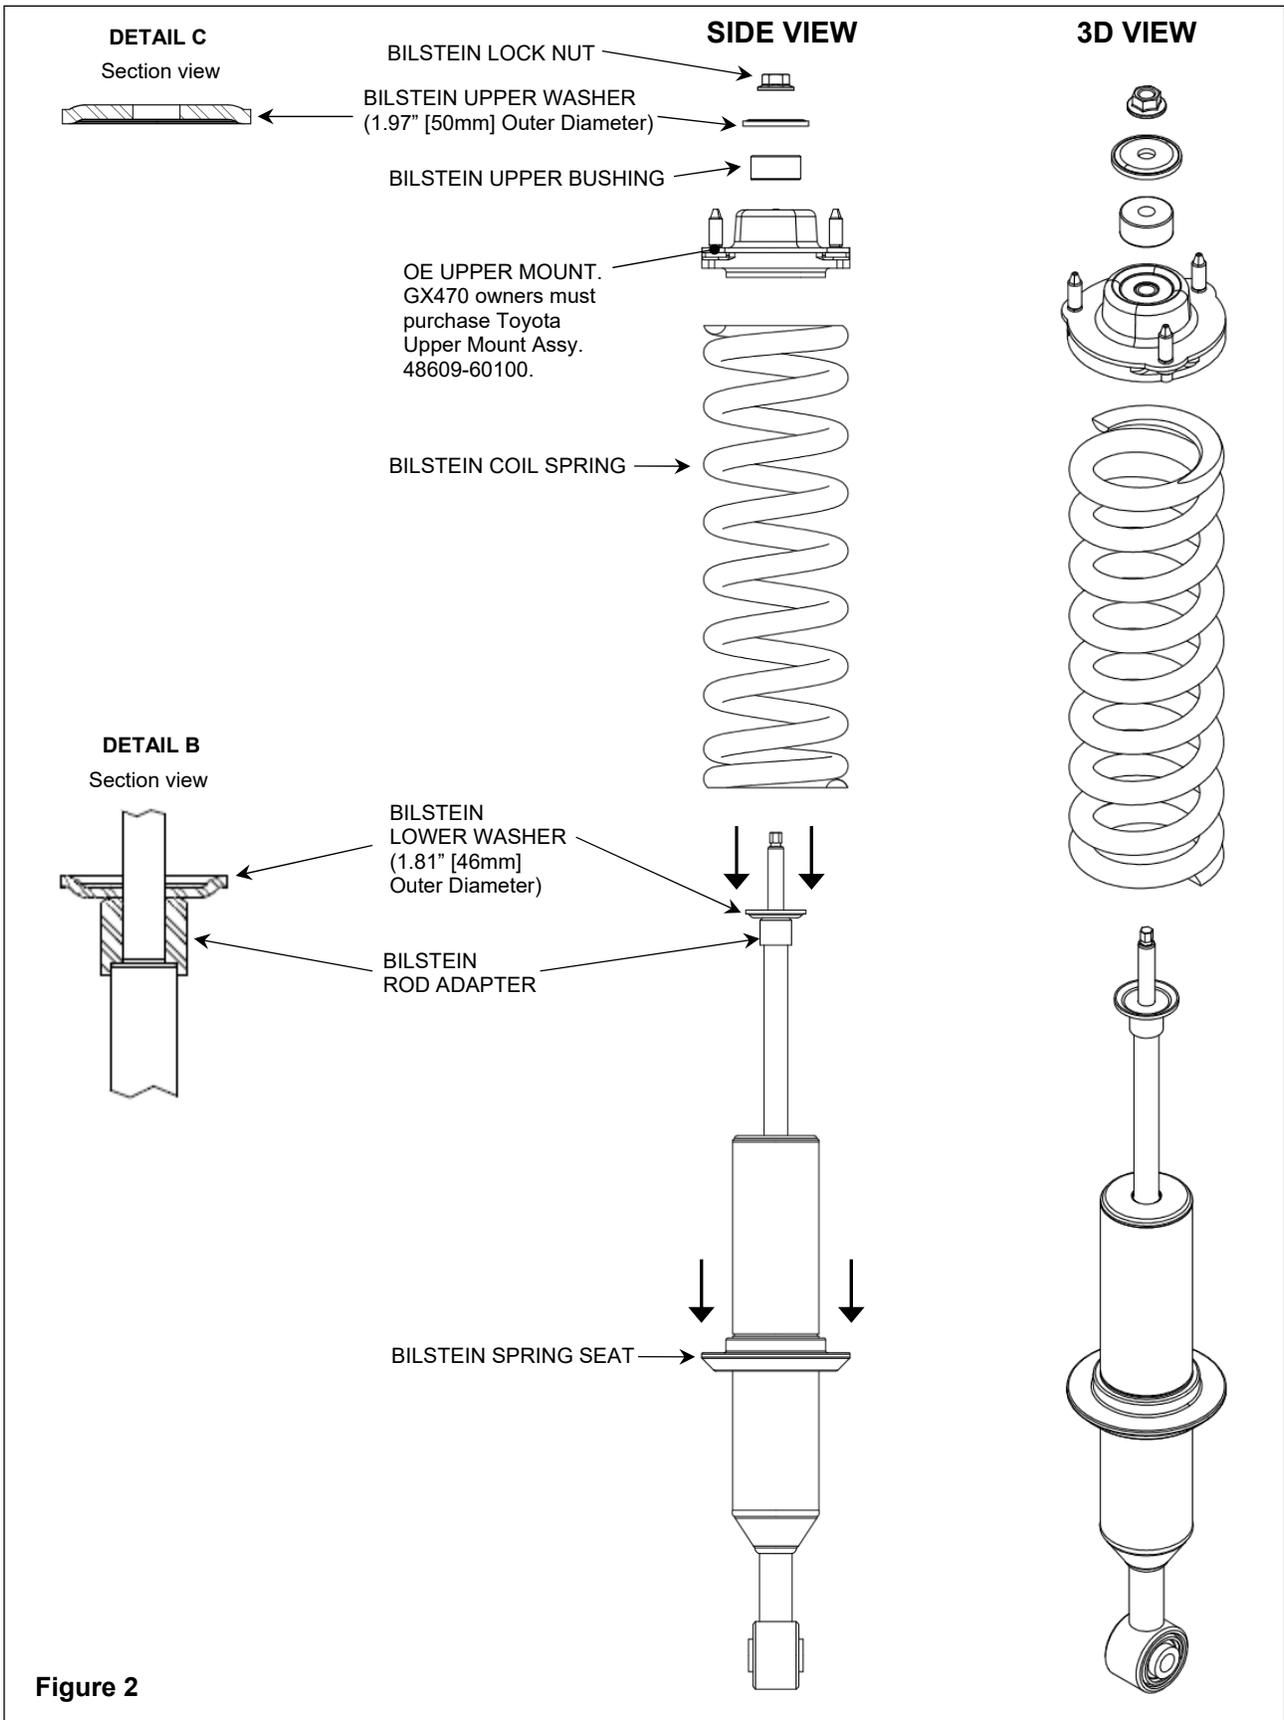

Figure 2
[Refer to Figure 2 on page 7 for steps F-L]
- G. Install the supplied rod adapter (counter bore side down) onto the stem of the rod as shown. Ensure that the rod adapter is oriented correctly (see Figure 2 Detail B).
- H. Install the supplied lower washer (concave side up) onto the stem of the rod as shown. Ensure that the lower washer is oriented correctly (see Figure 2 Detail B).
- I. Using an appropriate spring compressor, compress the supplied coil spring and assemble it with the new Bilstein shock. Refer to Figure 2 for the order of the remaining components.
- K. Install the supplied upper bushing and supplied upper washer (concave side down) onto the stem of the rod as shown. Ensure that the upper washer is oriented correctly (see Figure 2 Detail C).